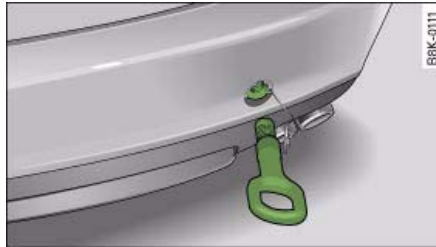

Fig. 282 Rear bumper:
- To detach the cover cap from the bumper, firmly press the lower part of the cap inwards to release it ⇒ fig. 282.